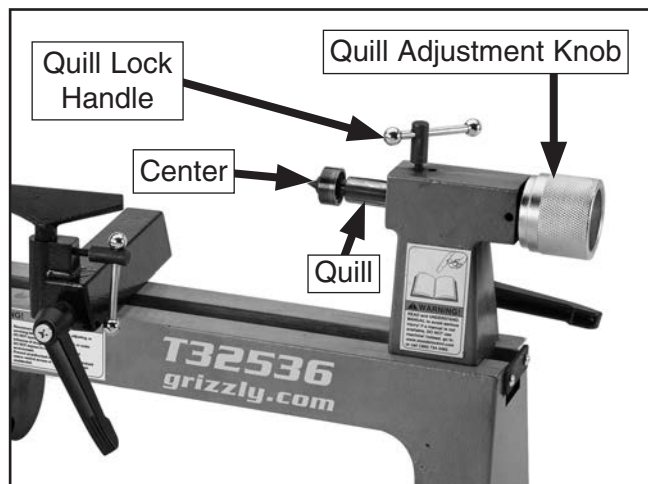

Figure 16. Tailstock center installed in quill.
1. Loosen quill-lock handle, and rotate quill adjustment knob until quill extends about 1", as shown in **Figure 16**.
3. Firmly insert tapered end of center into tailstock quill, as shown in **Figure 16**.